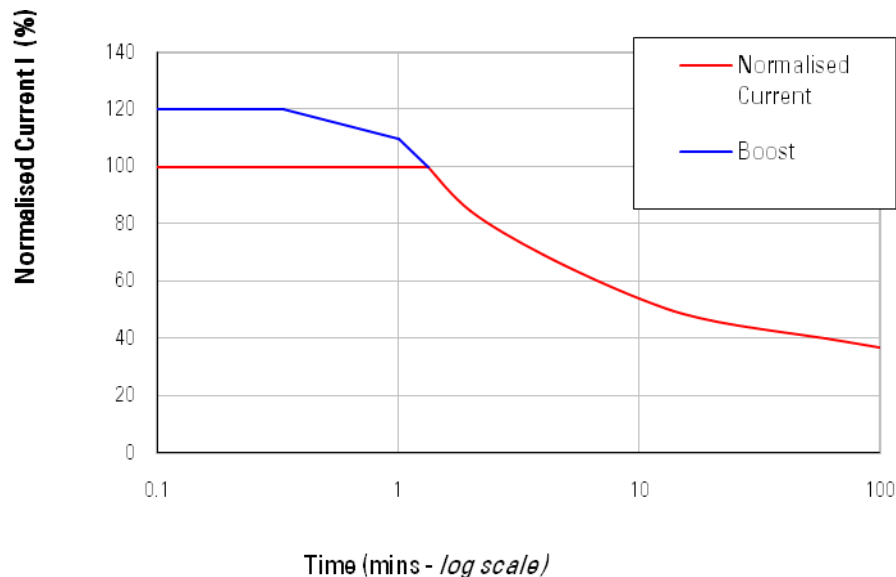

Figure 10 Output current available for various durations of sustained current demand
Output current:	Reduced automatically from peak to continuous rating depending on the time a peak load is applied to the controller (see Figure 10 on page4-4). Reduced automatically if operated outside normal temperature range.
*2 minute rating (lower ratings are possible for longer periods; see example in Figure 10)